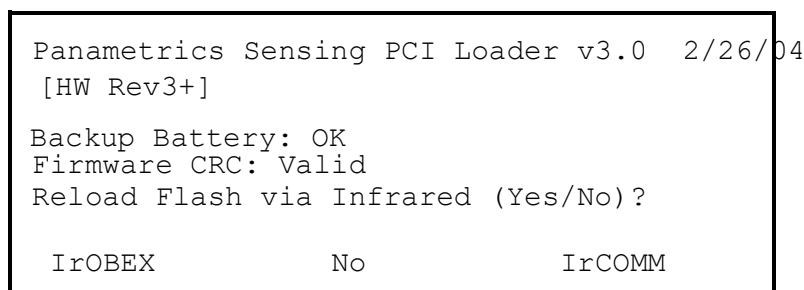

Figure 156: Flash Reloading Window
- Press **[F3]** (OK) to confirm that you wish to erase the program.
4. The meter asks for confirmation. Repeat the options shown in Step 1 above. After the PT878GC reboots, the screen appears similar to Figure 156 below.